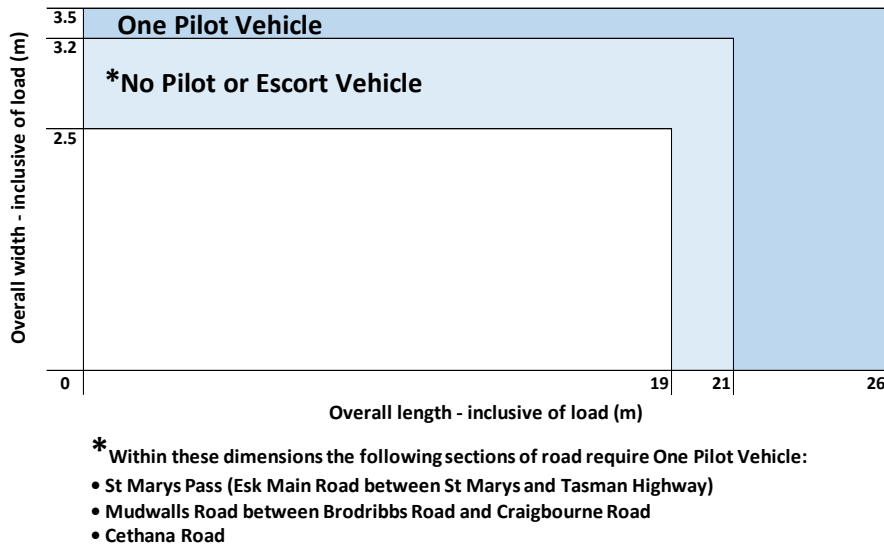

Figure 8: Pilot and escort vehicle requirements for blue roads on LCV Class 1 map daylight travel
- Have a vertical rigid yellow retro-reflective dual faced warning sign on its roof with black lettering stating, “OVERSIZE LOAD AHEAD” (see figure 8). The sign must not be displayed when not operating as a Pilot Vehicle - s26
The requirements for blue colour coded roads are shown in Figures 8 and 9 for daylight and night-time travel respectively. Travel on blue roads introduces a requirement for a pilot vehicle for loads exceeding dimensions of 3.2m width or 21m length in the daylight, or 3.1m width or 21m length in at night-time.